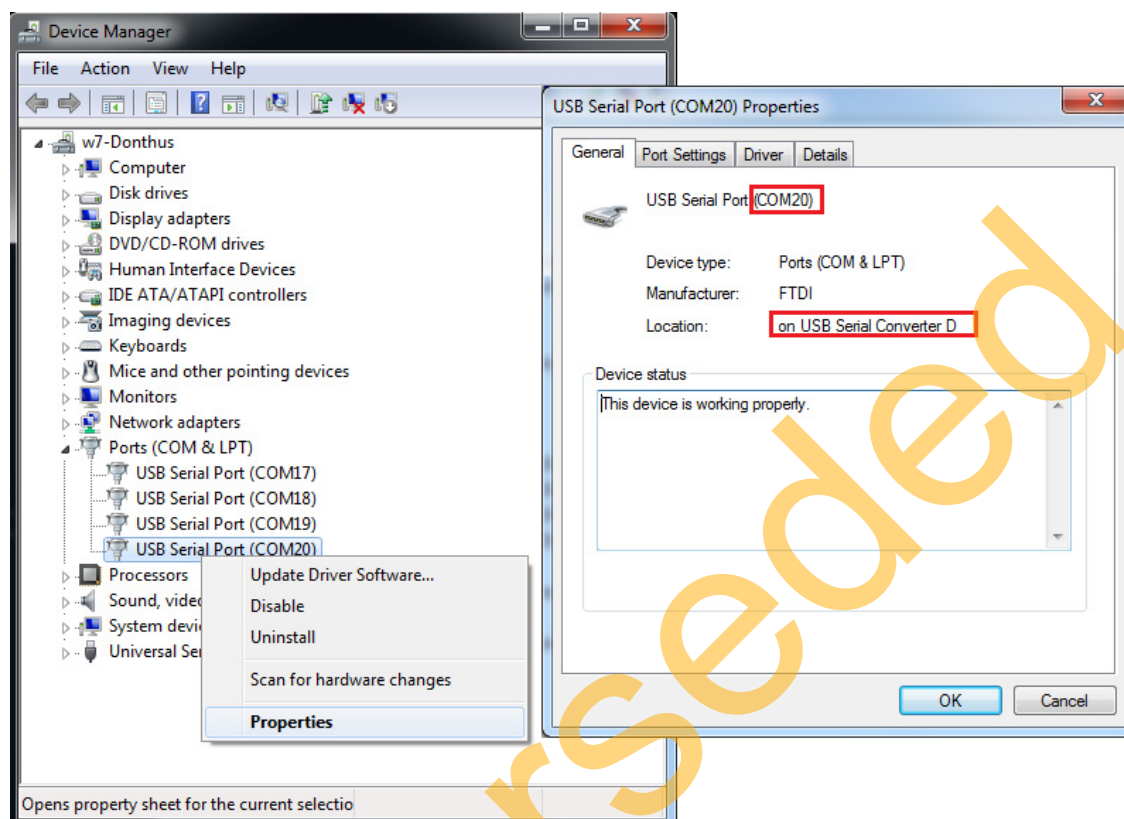

Figure 6 • USB to UART Bridge Drivers
2. Connect one end of the USB mini-B cable to the J24 connector provided on the SmartFusion2 SoC FPGA Development Kit. Connect the other end of the USB cable to the host PC. Make sure that the USB to UART bridge drivers are automatically detected (can be verified in the Device Manager), as shown in Figure 6.
Note: Copy the COM port number for serial port configuration. Ensure that the COM port location is specified as "on USB Serial Converter D" as shown in Figure 6.